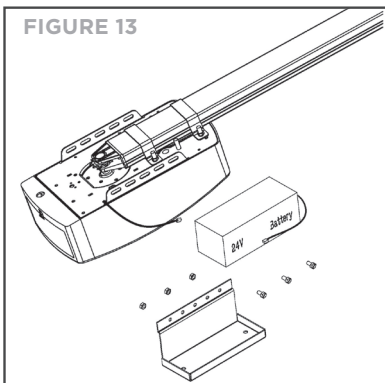

FIGURE 13
STEP1 (Fig.13)
Assemble the battery & battery bracket per (Fig.13),
Assemble the battery to opener, (Fig.13) then fix by screws supplied (Fig.14)